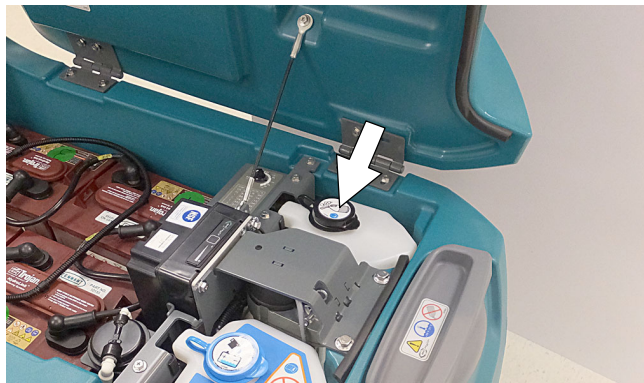

FIG. 20
1. Lift the recovery tank to access the severe environment detergent tank (Figure 20). Drain recovery tank before lifting tank.